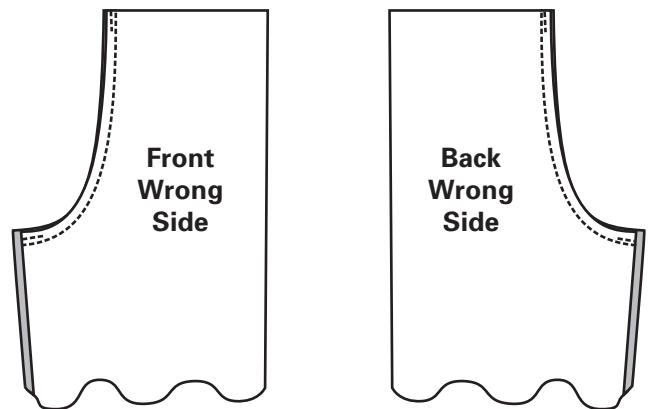

Fig. 1-2
3. Pin the front pieces together at the center seam with right sides together and the upper edges even. Sew or serge the pieces together; if you're sewing rather than serging, clip the curve and finish the seam allowances with zigzag stitches. Repeat for the back pieces. (Fig. 1-2)